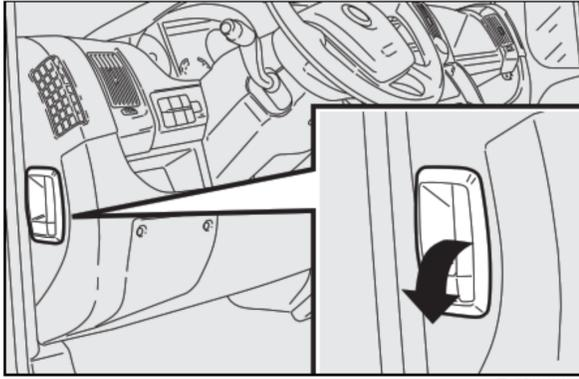

fig. 100
- pull lever **fig. 100** in the direction of the arrow;